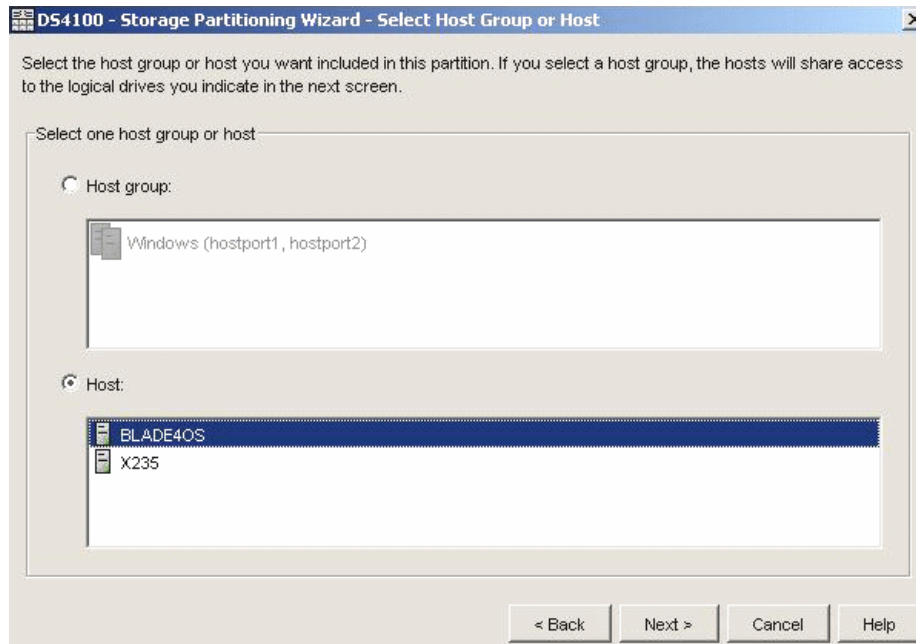

Figure 9-56 Storage Partitioning Wizard - Select Host Group or Host window
25. Click **Next** to enter the wizard. You will see a window similar to Figure 9-56.